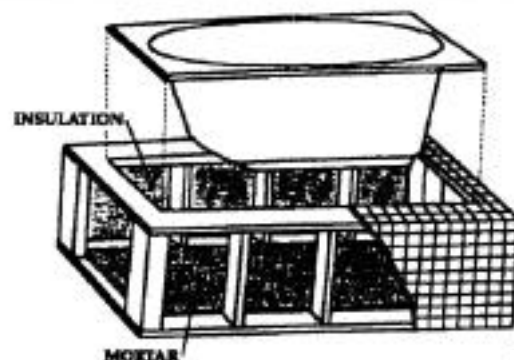

Fig. 3
We recommend setting the tub in mortar or plaster to level tub and prevent shifting after installation. (See fig. 3 under construction details) Apply mortar to the floor area that makes contact with the tub base. Set tub in opening and push on bottom of tub to secure in mortar. **TUB MUST NOT "HANG" FROM LIP OF TUB! Do not fill tub with water until mortar has hardened. Seal all joints with silicone.**
- a. Insulate the surround (see Fig. 3).